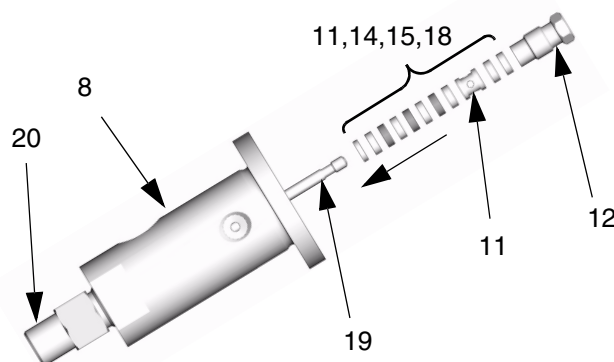
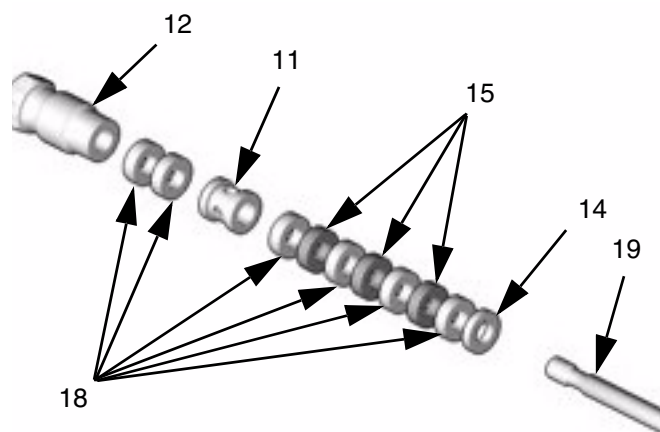

FIG. 7
FIG. 8
1. Insert the pin (19) through the valve body (8). See FIG. 7.
2. Screw the seat (20) onto the valve body (8) and torque seat (20) to 45 ± 5 ft - lbs.
3. Assemble packings onto the pin (19) as shown in FIG. 7 and FIG. 8.